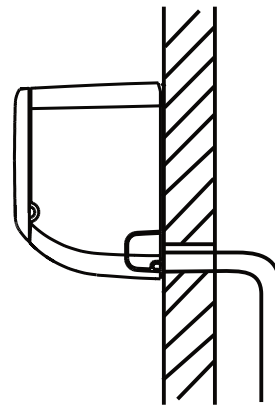

Fig. 4.5a
2. Using example **Fig. 4.5a** as a guide, make sure your drain pipe is run in a similar manner. The other examples in **Fig 4.5** represent things you should avoid when installing your drain pipe.
Make sure to arrange the drain hose correctly according to **Fig. 4.5a**.